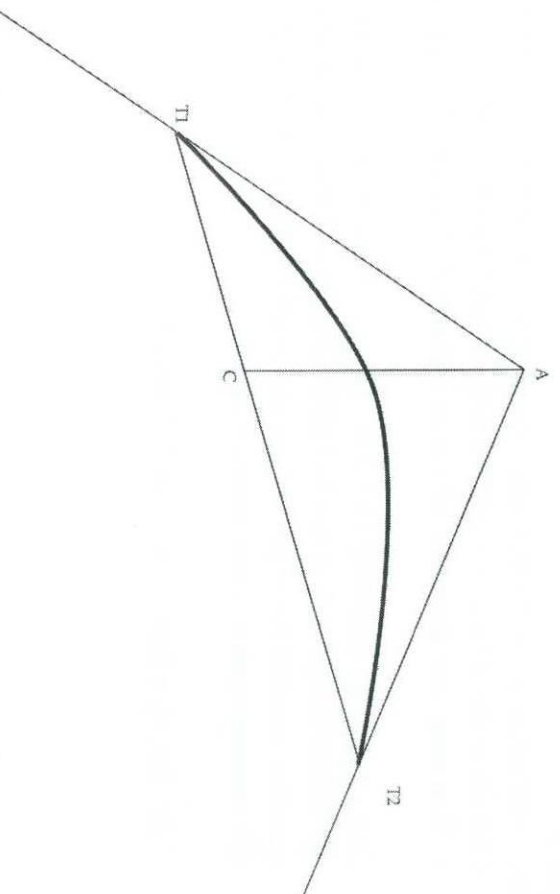

Figure Q2-1 Schematic diagramme of a vertical curve (Not to scale)
- d) If a curve length of 300 m was selected for the curve proposed in in Q2. (c), the elevation of the starting point (T1) of the vertical curve is 345.000 m AMSL and the chain-age is 19+880 m, calculate the following (Refer Figure Q2-1):